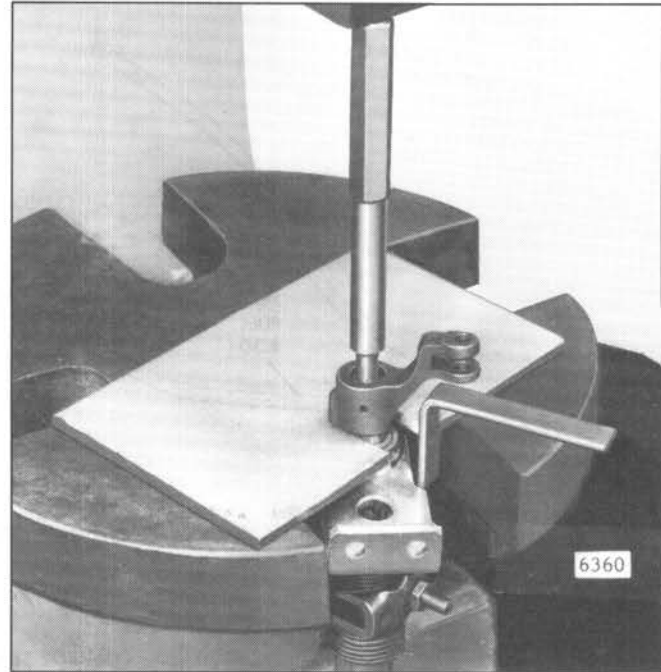

Fig. 5 – Press Old Lever off Control Tube
4. Remove the pin from the control lever and press the old lever off the control tube (Fig. 5).